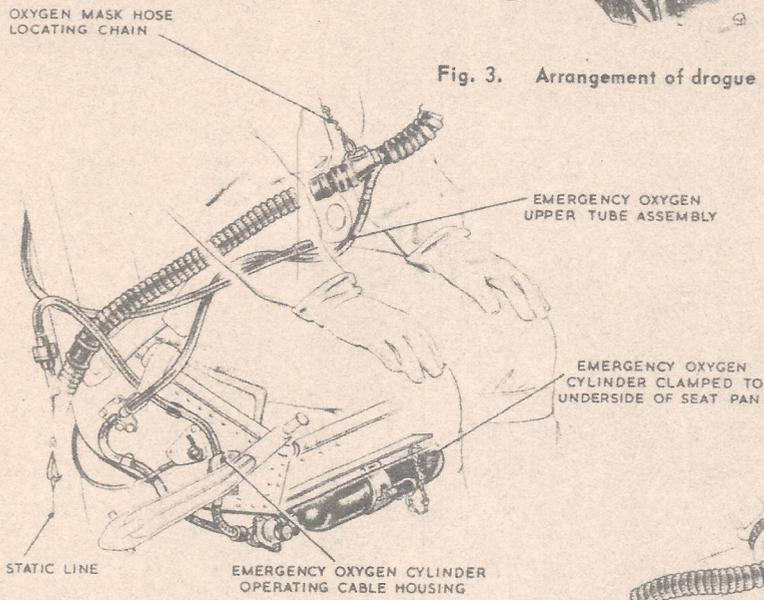

Fig. 4. Arrangement of oxygen supply on seat
- (1) Place the safety harness shoulder straps over the back of the parachute pack container and ensure that the lap straps and leg restraint cords are clear of the seat pan.
- (2) Sit in the seat and raise it fully.
- (3) Fit the emergency oxygen cylinder into its mounting bracket, ensuring that the operating head is to the right of the seat and that the supply tube faces aft.
- (4) Clamp the cylinder into its bracket and fit the locking pin into the clamp.
- (5) Secure the bayonet union plug of the supply tube in the clamp on the right-hand side of the seat pan and, having arranged the tube as shown in fig. 4, fit it into the spring clip below the clamp.
- (6) Fit the emergency oxygen cylinder operating cable housing into the two clips on the right-hand side of the seat pan.
- (7) Ensure that the housing passes outside the safety harness lap strap and main oxygen supply hose and does NOT loop over the safety harness automatic release cable; connect the operating cable to the anchor section of the static line and fit the housing ferrule into the anchor socket.
- (8) Connect the anchor hook to the static line-cum-manual operating cable.
- (9) Place the personal survival pack in the seat pan, ensuring that the lowering line satchel is on the left and that the line emerges from the left-hand side of the seat pan. See note following para. 13 (2).
- (10) Check that the apron is clipped securely to the lower extension of the parachute pack container. Tension the apron against its clips and insert the parachute pack into its container; before pushing the pack fully home, connect the two halves of the parachute withdrawal line coupling.
- (11) Push the pack fully home into its container and fit the pack restraining straps into the spring clips on the sides of the container.
- (12) Insert the parachute harness sticker straps into the spring clips on the sides of the seat pan. Arrange the harness and cushion so that the front edge of the cushion does not overlap the front edge of the seat pan.
- (13) Connect the personal survival pack side quick-release couplings to the fittings on the parachute harness; ensure that the couplings pass outside all other straps. See note following para. 13 (6).
- (14) Pass the bayonet union socket of the emergency oxygen upper tube assembly through the stirrup quick-release coupling and connect it to the bayonet union plug of the supply tube.
- (15) Remove and retain the safety pin from the emergency oxygen cylinder operating head.